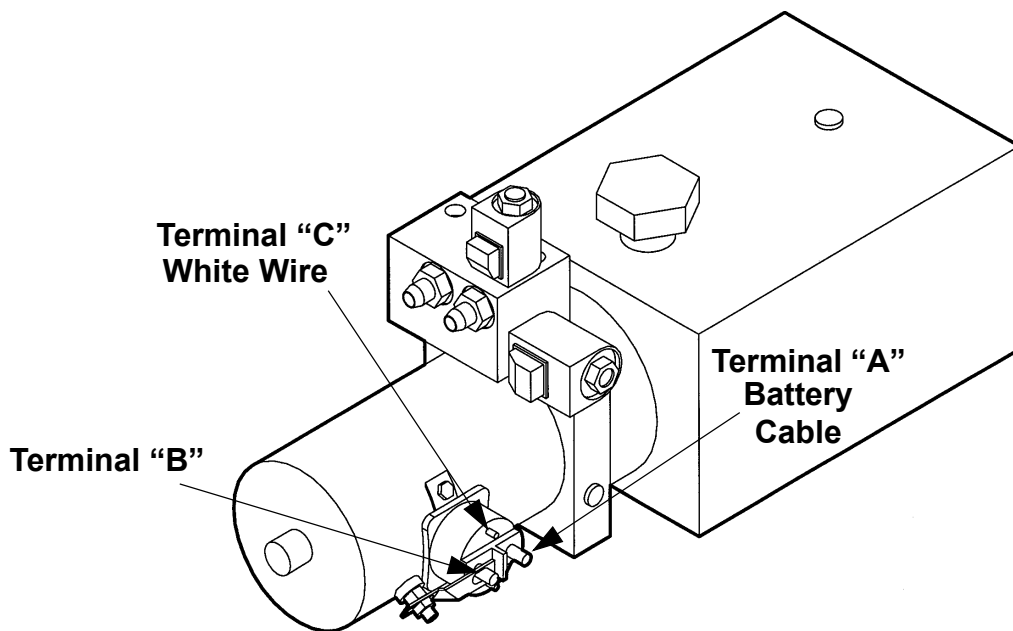

FIGURE 1
- 1.** Check the Flow Control Valve. The Arrow on the valve shows the direction of flow that is restricted and must point back to the Reservoir. **(See Fig. 1)**